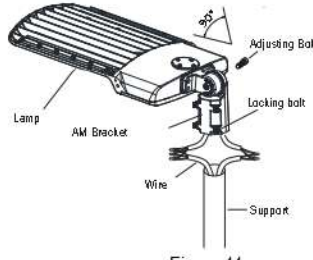

Figure 11
Step 1: Loosen the four bolts on AM bracket, connect the wires correctly, and pull the wires into the poles. (Figure 11)
Notice: Adjustable angle is 0-90° (Figure 11)